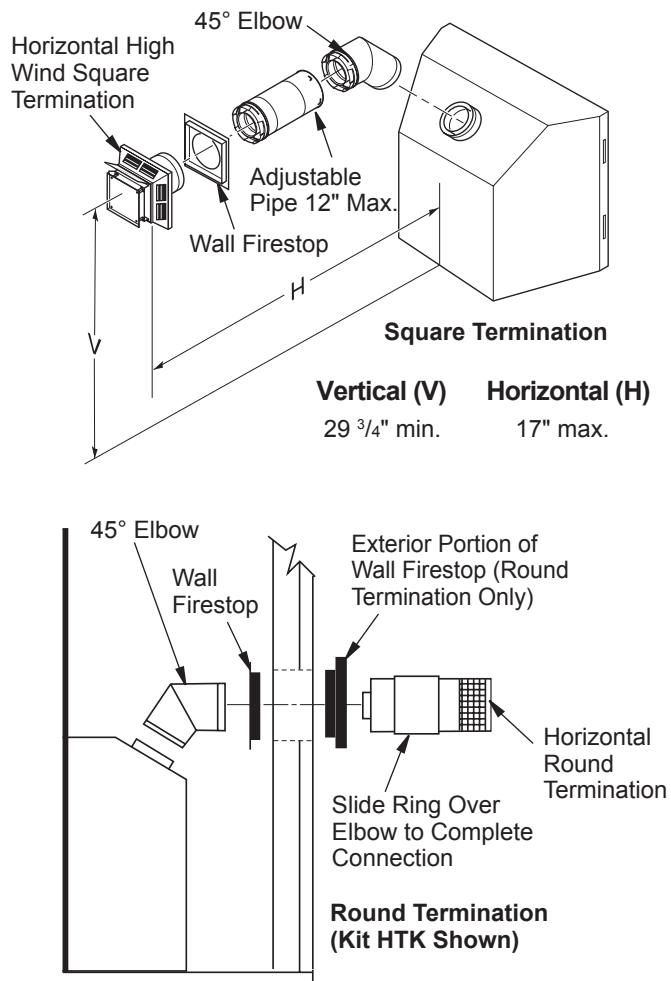

Figure 14 - Horizontal Termination Configuration for Square or Round Terminations
IMPORTANT: Horizontal square terminations require only inner portion of wall firestop. Horizontal installations using round termination require exterior portion of wall firestop available only in vent kit HTK (see Figure 14, page 10).
1. Set the fireplace in its desired location and determine the route your horizontal venting will take. Do not secure the fireplace until all venting has been installed. Some installations require sliding the fireplace in and out of position to make final venting connections. Figures 14 through 18 on pages 10 through 12 show different configurations for venting with horizontal termination that will help you decide which application best suits your installation. Check to see if wall studs or roof rafters are in the path of your desired venting route. If they are, you may want to adjust the location of the fireplace.
Figures 14 through 18 show different configurations and alternatives for venting with horizontal termination. Each figure includes a chart with critical minimum and maximum dimensions which **MUST** be met. **IMPORTANT:** Remember that a horizontal run of venting must have a 1/4" rise for every 12" of run toward the termination.